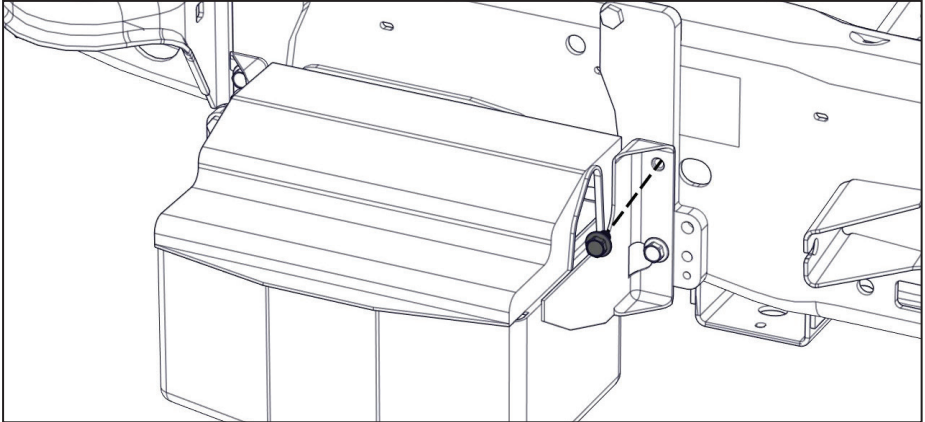

Figure 76 — Mounting the front battery box
- ☐ Install the top rear fastener and tighten the other box mount fasteners (Figure 76).